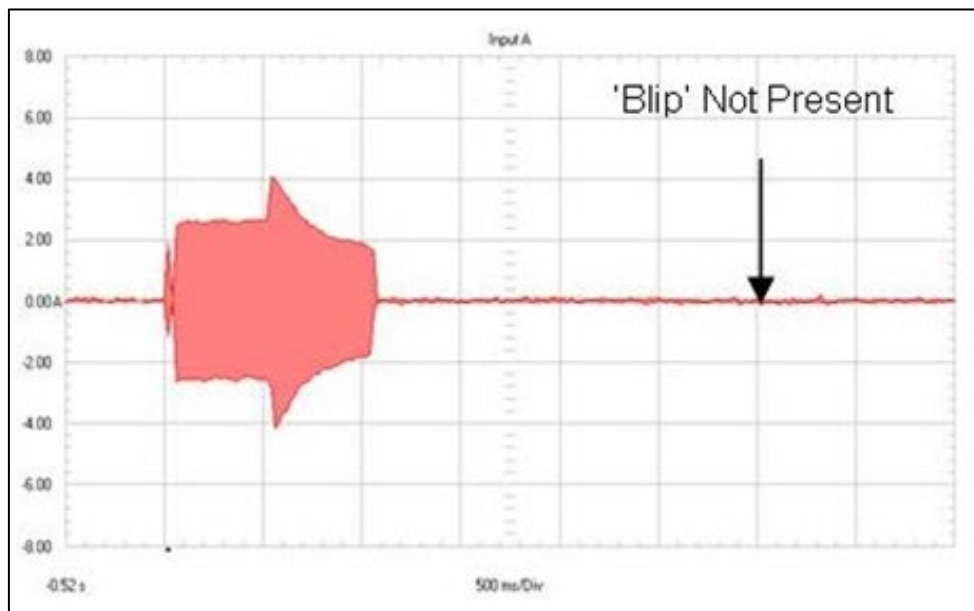

**Figure 2 – Trace 2: Current probe L2, running current 2A
b) If this is not the case (see Appendix A Figure 2) then the dummy resistors shall be connected in circuit.